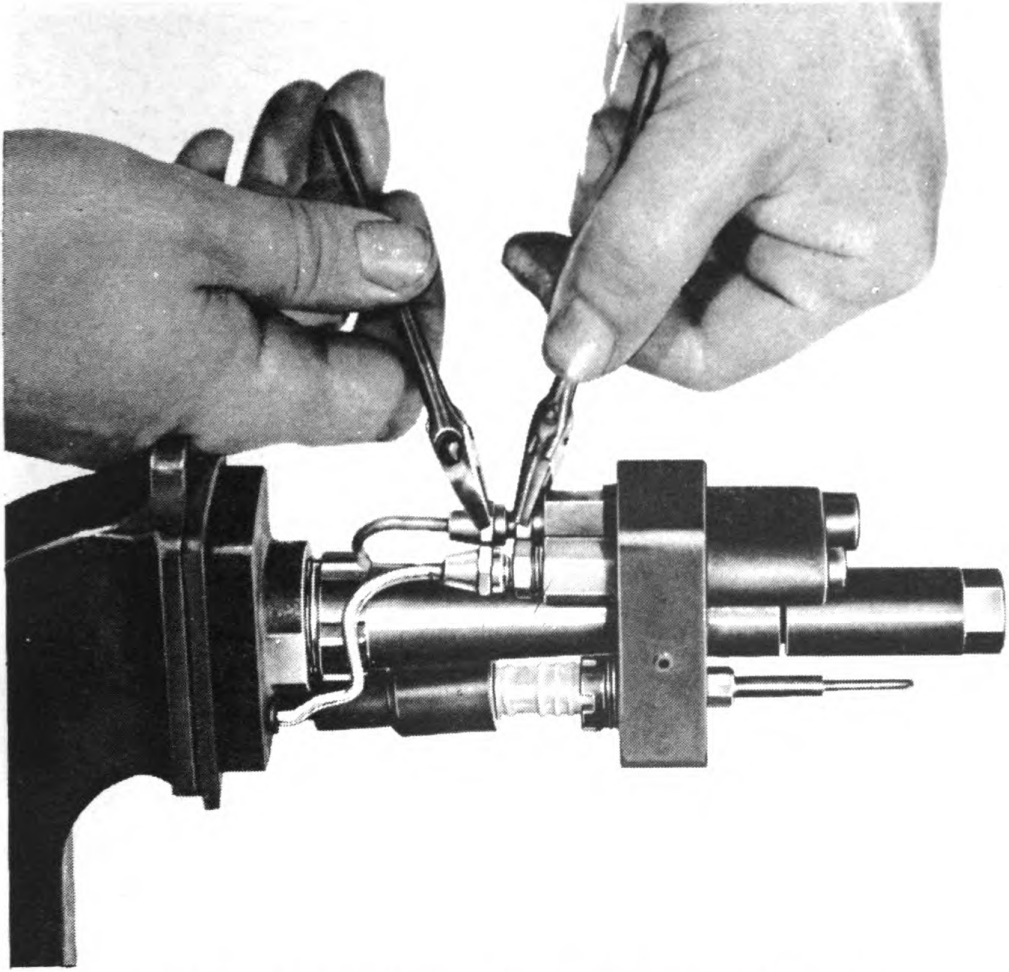

Fig. 66. Disconnecting tube nuts on nozzle assembly.
- Disconnect air and gasoline tube nuts from the air and gasoline nozzle assemblies, using a wrench (fig. 66).